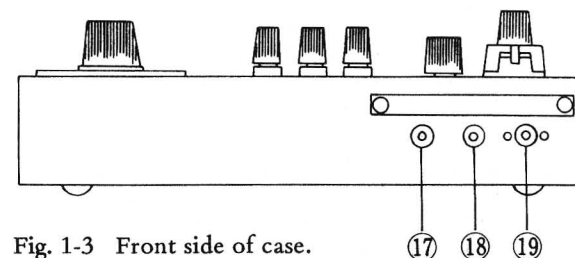

Fig. 1-3 Front side of case.
- ⑮ Cover fastener for the battery compartment.
- ⑯ Carrying handle.
- ## C. Front Side of Case, Fig. 1-3